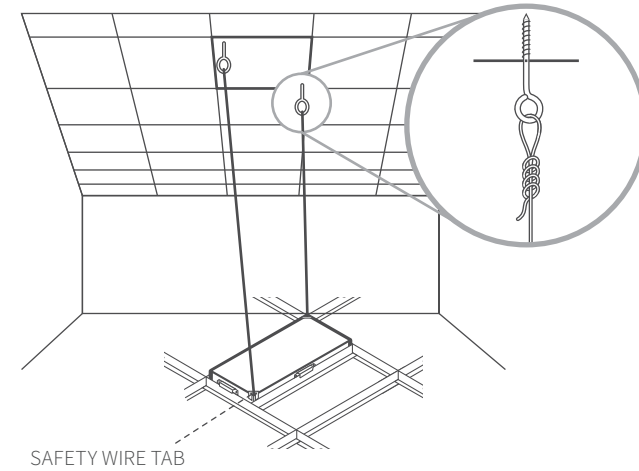

FIGURE 6:
3. Install the appropriate anchor into the building structure (see figure 6).